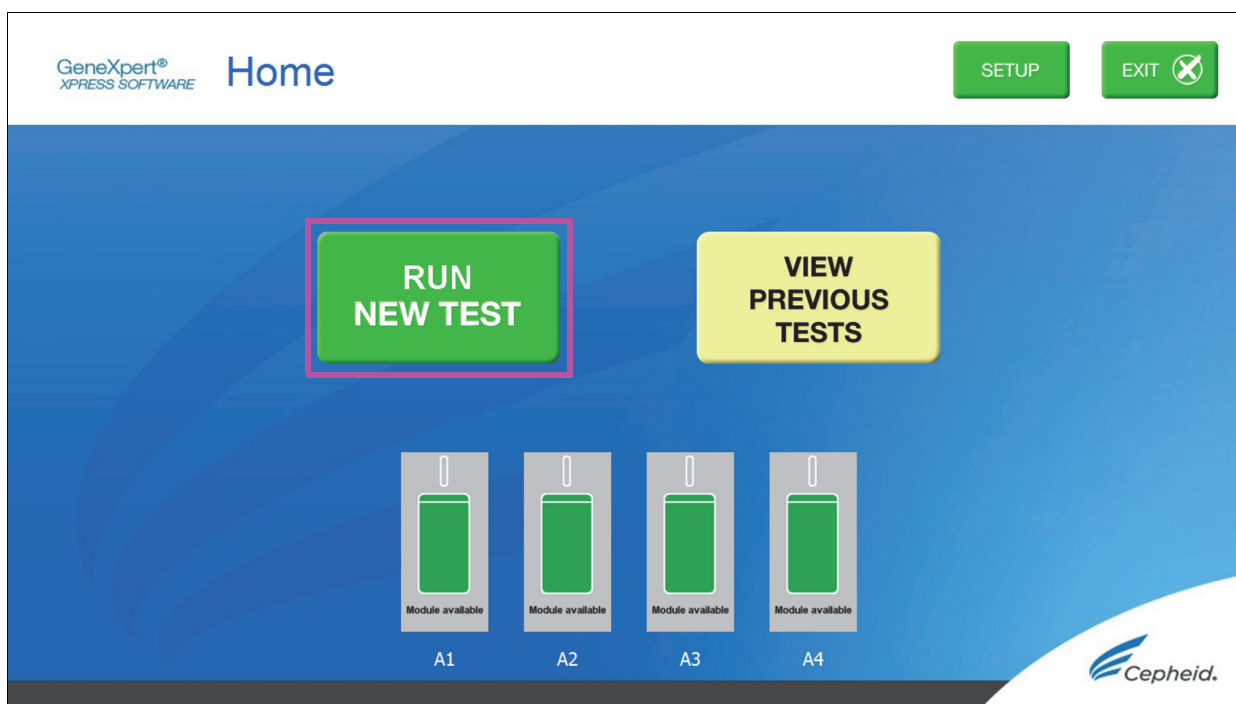

Figure 7. RUN NEW TEST button on Home Screen (GeneXpert Xpress IV screen shown)
1. Put on a new pair of gloves if performing a new test. Touch the **RUN NEW TEST** button on the Home screen (see Figure 7) to run a patient specimen or an external control.